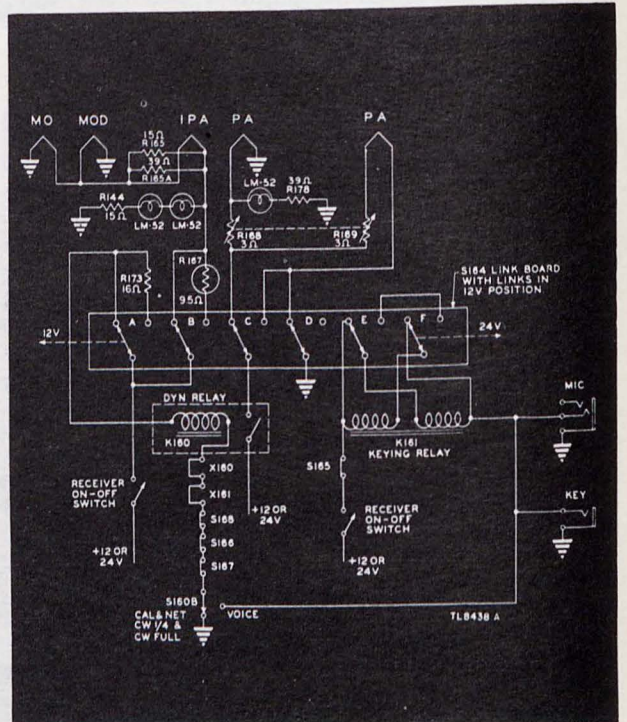

Figure 57. Radio Transmitter BC-653-A, functional diagram of link board, filament, and control circuits.
b. The positive voltage from the dynamotor 500-volt supply is fed through switch section S160E (VOICE position) and voltage-dropping resistor R184 to the screen grid of tube V180. The voltage at the screen is also fed through the primary of modulation transformer T180 to the plate of the tube. Capacitor C180 is the plate bypass to cathode. Resistor R185 is a bleeder resistor, to hold the plate and screen high voltage constant. The output of the modulator is inductively fed to the secondary winding of modulation transformer T180. The secondary winding is connected to the grids of the two p-a tubes through switch section S160C (VOICE position), resistor R140, and r-f choke L140. The secondary winding of transformer T180 is shunted by load resistor R189. An additional winding on transformer T180 provides sidetone for voice operation. The filament of modulator tube V180 is connected in parallel with the filament of m-o tube V100 as shown in figure 57. These two tubes in parallel are connected in series with the filament of i-p-a tube V120 to make up a 12-volt circuit.
Figure 57 is a schematic diagram of link board S164 with the control and filament circuits included. The link board is used to adapt Radio Transmitter BC-653-A for use with either a 12- or 24-volt source. The six links change the filament, control, and keying circuits of the transmitter to compensate for the difference in voltages. The links are mounted on a link board which is found above the dynamotor when the modulator cover of the transmitter is removed.